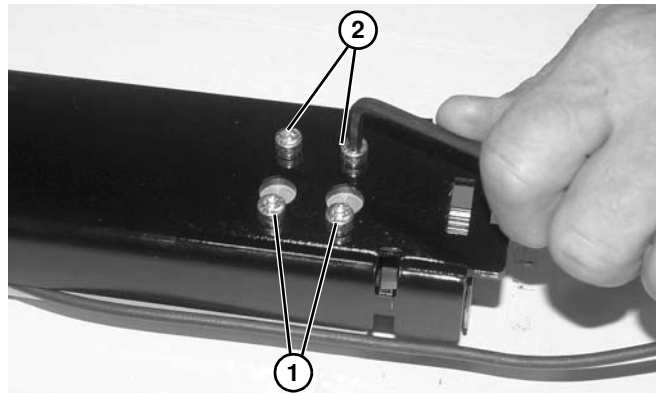

Figure 205
13. Loosen two screws (**Figure 205, item 1**), and remove two screws (**Figure 205, item 2**) securing motor onto crossmember.